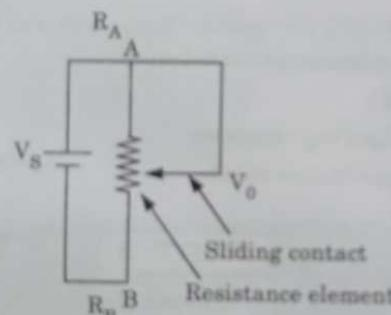

Fig. 1.9.1. Potentiometer : electric circuit.
7. The output voltage ( $V_A$ ) is measured as shown in Fig. 1.9.1. The output voltage is proportional to the displacement of the slider over the wire.